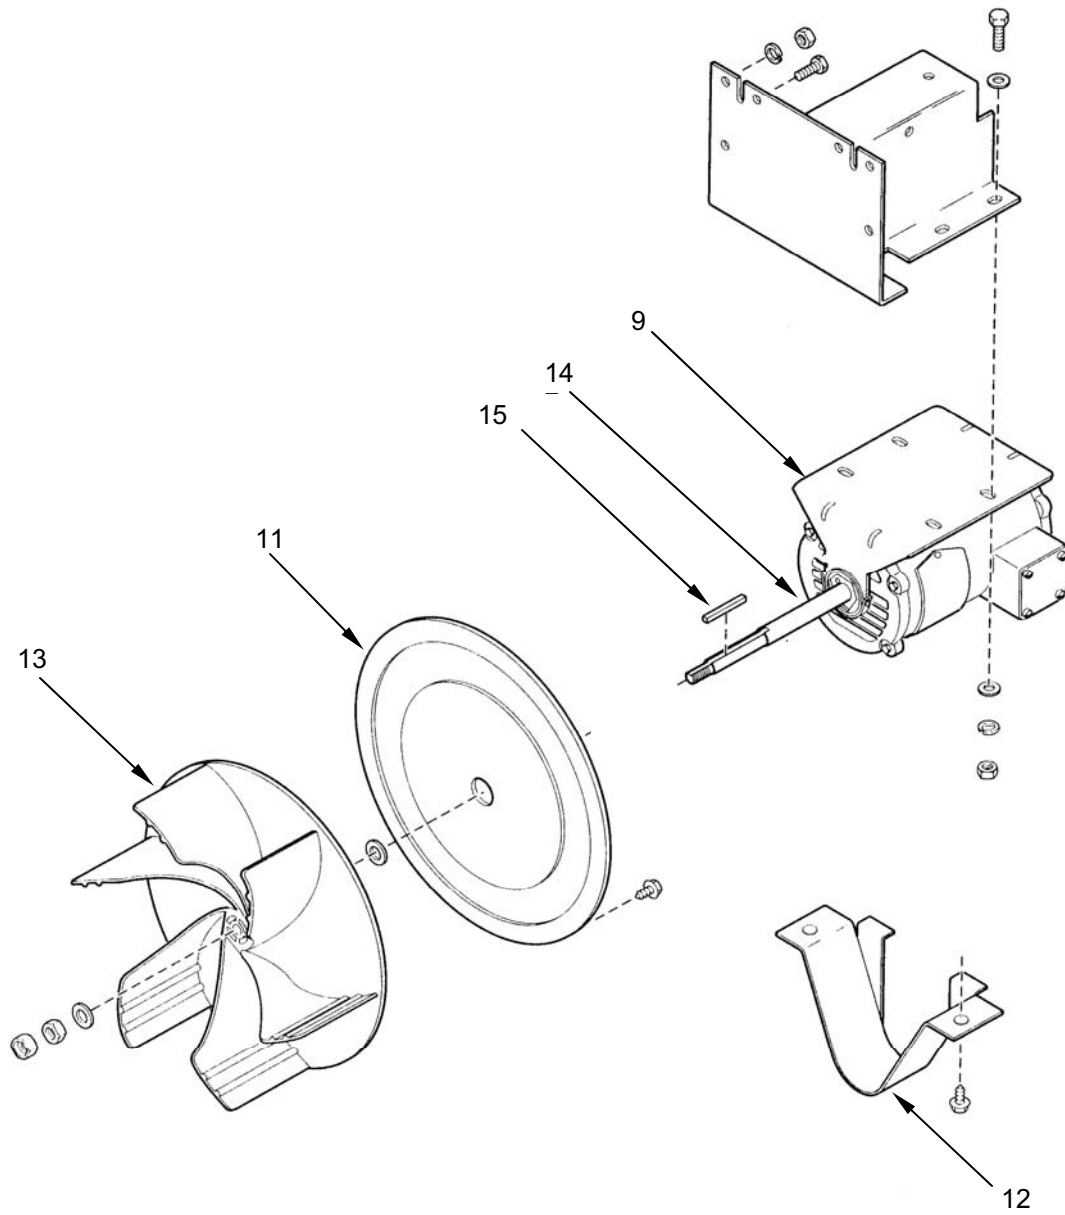

Figure 5. Replace the Fan Motor.
6. Remove screws retaining fan housing cover (**Figure 5, Item 11**).
7. Remove bolts securing guard (**Figure 5, Item 12**), and remove guard.
8. Remove bolts securing motor (**Figure 5, Item 9**) to motor mount, and remove motor, fan (**Figure 5, Item 9, 13**), and fan housing cover (**Figure 5, Item 11**) as an assembly.
9. Secure the motor shaft and remove the nut retaining the fan (**Figure 5, Item 13**) to the motor shaft (**Figure 5, Item 14**).
10. Remove the bolts retaining the fan housing cover (**Figure 5, Item 11**) to the motor (**Figure 5, Item 9**).
11. Remove the fan (**Figure 5, Item 13**) and the fan housing cover (**Figure 5, Item 11**) from the motor shaft (**Figure 5, Item 14**). Remove the key (**Figure 5, Item 15**) from the motor shaft.
12. Install the key (**Figure 5, Item 15**) on the replacement motor shaft (**Figure 5, Item 14**).
13. Install the fan housing cover (**Figure 5, Item 11**) onto the motor shaft (**Figure 5, Item 14**).
14. Install the fan (**Figure 5, Item 13**) onto the motor shaft (**Figure 5, Item 14**) and retain with nut.
15. Secure the fan housing cover (**Figure 5, Item 11**) to the motor (**Figure 5, Item 9**) with bolts.
16. Install the motor (**Figure 5, Item 9**), fan (**Figure 5, Item 13**), and fan housing cover (**Figure 5, Item 11**) as an assembly onto the motor mount and retain with bolts.
17. Install the guard (**Figure 5, Item 12**) and retain with bolts.
18. Retain the fan housing cover (**Figure 5, Item 11**) to the dryer with screws.